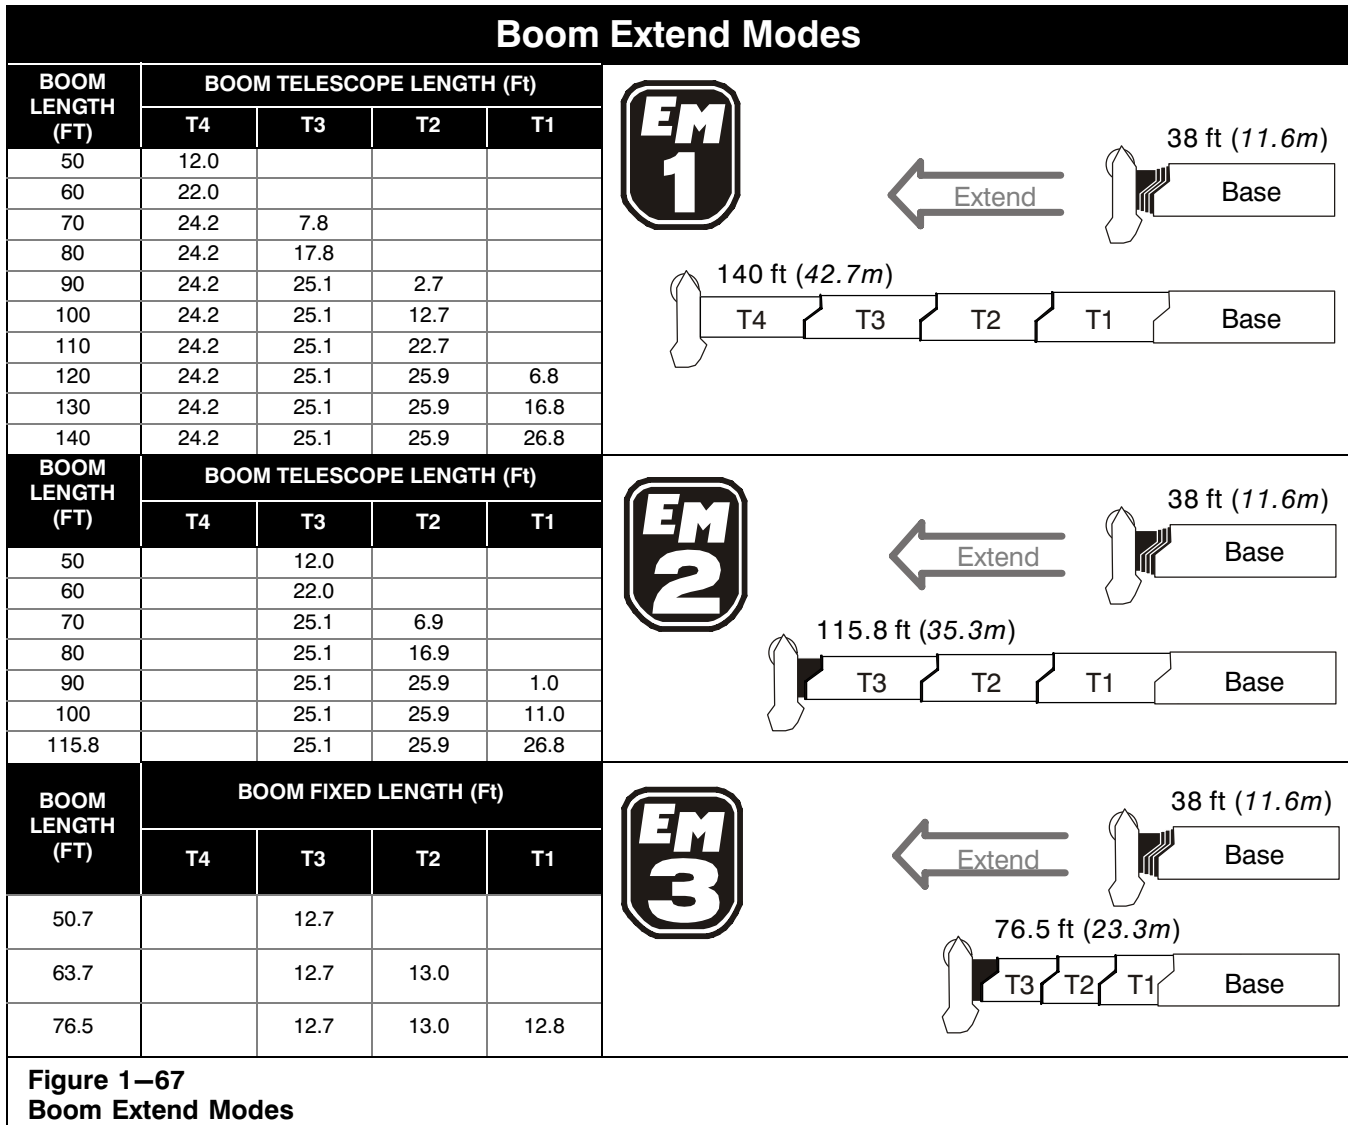

Figure 1–67
This system controls raising and lowering the winch lines. The system is equipped with a two speed motor that, when activated, will approximately double winch line speed. The controls for the system are shown in Figure 1–64. Review the following for control descriptions and brief summary of operation.
This switch is used to control engaging/disengaging the high/low speed hoist and disabling the front or rear winch. Refer to Figure 1–64.
Move the control lever to the neutral position to bring the load to a complete stop. Press the winch control switch to the high speed () position. Move the control lever to the  or  position. The high speed hoist will activate after engaging the control lever. Refer to Figure 1–64.
This system is used to monitor winch drum speeds through the use of a mechanical signaling device mounted inside each of the winch control levers. To activate the system, push the bottom part of the drum rotation indicator switch , on the right seat console (Figure 1–64), to the “ON” position (indicator within switch will illuminate). Place your thumb over the end of the control lever being used. As the winch drum rotates, a mechanical signal will be felt with your thumb. The frequency of the mechanical signal is a direct indication of the winch drum speed. Push the top part of the drum rotation switch to deactivate system.
The telescope control pedal is in the left front of the operator's cab floor. Refer to Figure 1–64. Depress the toe of the telescope control pedal to extend the boom. Depress the heel of the telescope control pedal to retract the boom.
The emergency telescope control switches are on a boom telescope remote control box stored in the tool box under the operator's seat. To enable the switches, connect the cord to the electrical connector on the lower right corner of the operator's cab. To enable the extend/retract and pin/latch switches, move and hold the activate switch to the "ACTIVATE" (I) position. Refer to Figure 1–68.